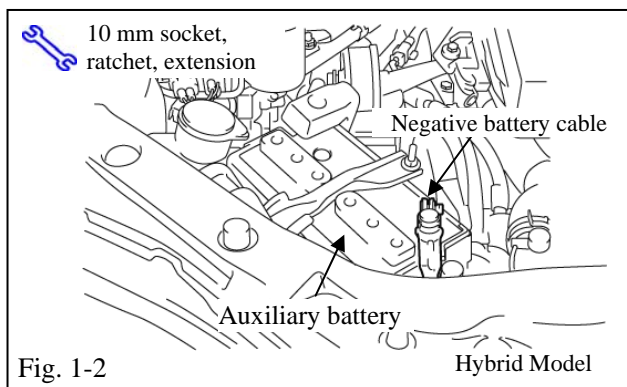

Fig. 1-2
**NOTE:** On the hybrid model, disconnect the negative battery cable of the auxiliary battery installed on the right side of the engine compartment. (Fig. 1-2)